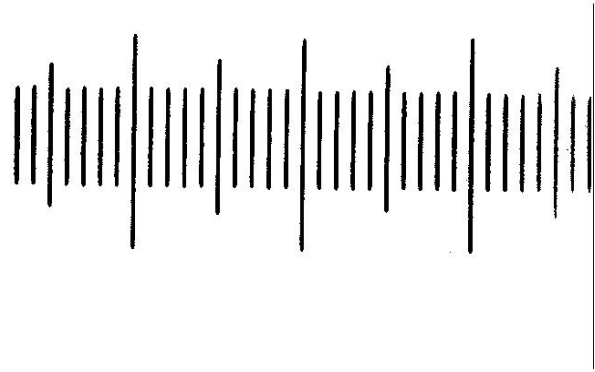

Fig.2 Image after binarized
2. Choose **Process->Binary...** to binarize the image, the result is shown in Fig.2.